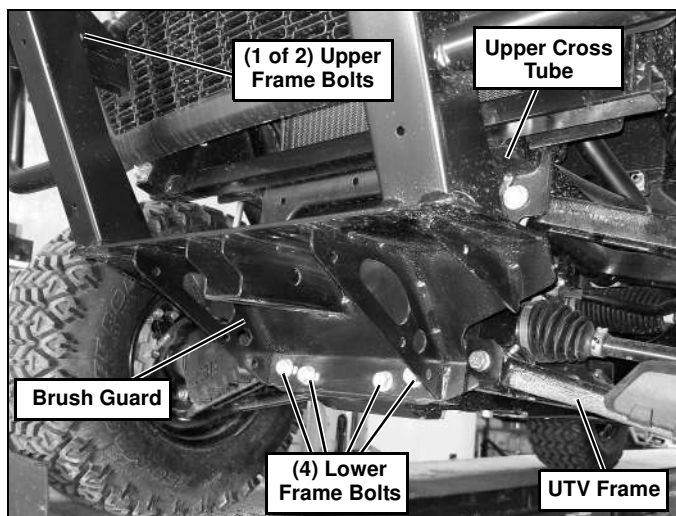
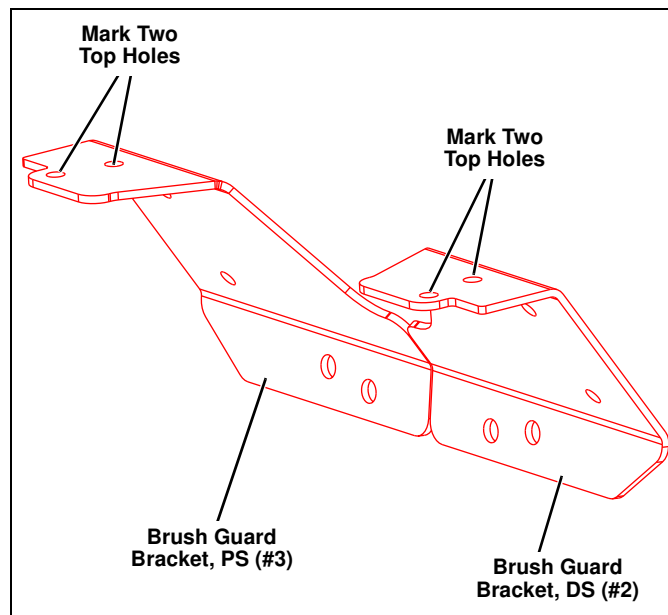
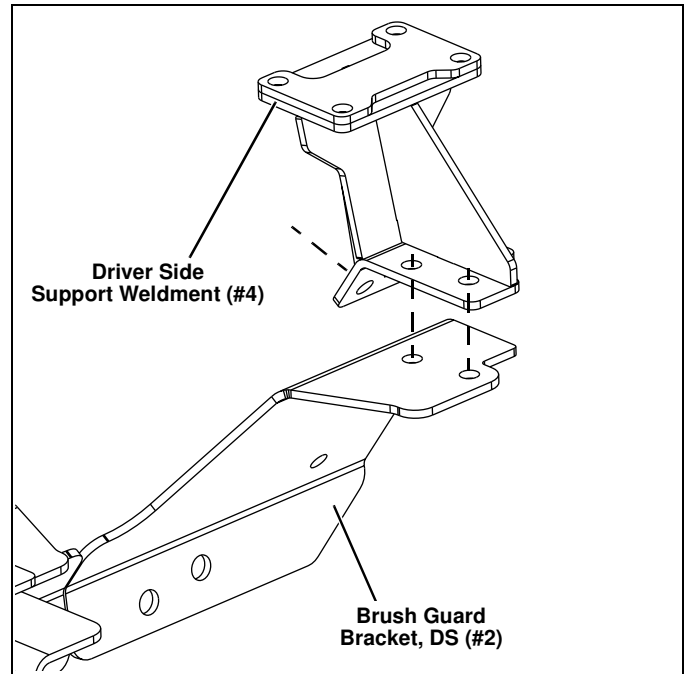

Figure 1
Figure 2
Figure 5
1. Remove the four lower frame bolts to open gap between the Brush Guard and UTV frame. (See Figure 1.) Slide the Driver and Passenger Side Brush Guard Brackets (#2 & #3) between the Brush Guard and UTV Frame. (1 per side). Ensure the lower frame holes are aligned by threading the bolts back into place. Use the Driver and Passenger Side Brush Guard Brackets (#2 & #3) as template to mark the locations of the two top mount holes on each side. (See Figure 2.)
2. Remove the Brush Guard Brackets and Brush Guard by removing the four lower frame bolts and two upper frame bolts (1 per side). (See Figure 1.)
- Set the Driver Side Support Weldment (#4) into place under the upper cross tube (see Figure 1) and aligned with the holes in the Brush Guard and Driver Side Brush Guard Bracket (#2). (See Figure 5.)